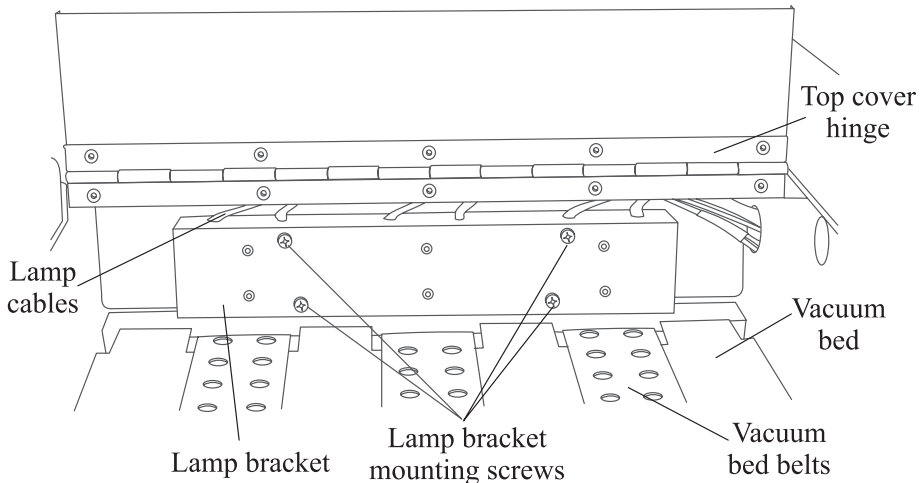

Figure 2
- 2.3. Remove the (4) screws located beneath the top cover hinge. See Figure 2.